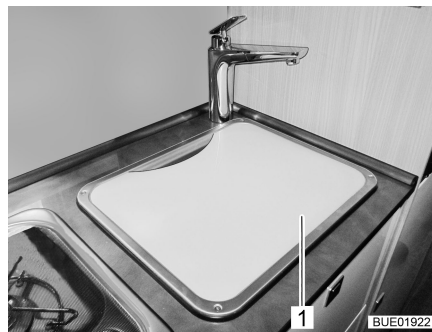

Fig. 2 Sink cover
► In the event of an accident or emergency braking, the sink cover (Fig. 2,1) could injure the occupants of the vehicle. Before the journey, take the sink cover off the sink and store it securely in the kitchen unit or wardrobe.